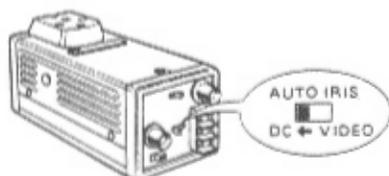

Fig. 1
- (1) Make sure the Lens Selection Switch on the rear of the camera is set at DC position. (Fig. 1)